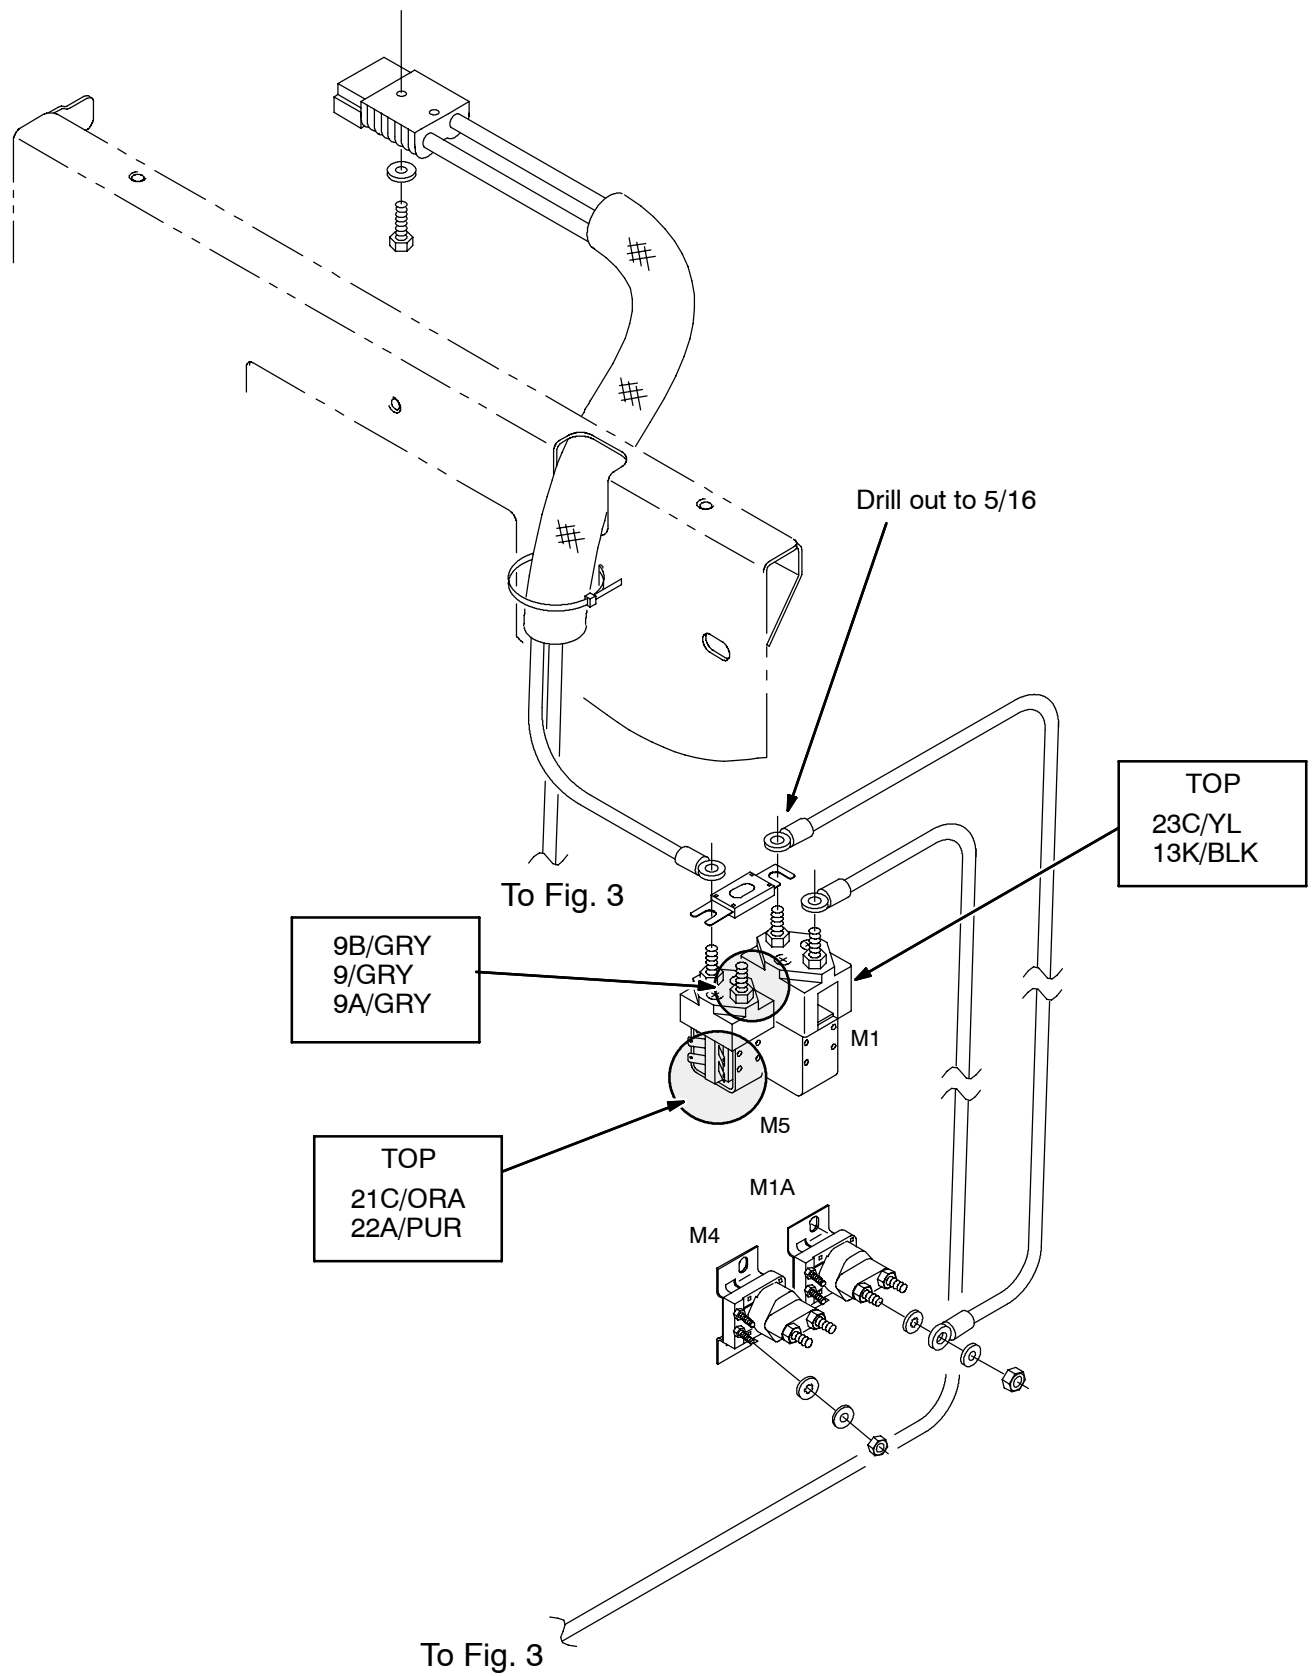

FIG. 4 - New Control Box Wires Group
28. Connect the other end of #3 wire 387641 to the front right side contactor **M1** on the right hand side of the control box. (Refer to FIG. 4 and 5)